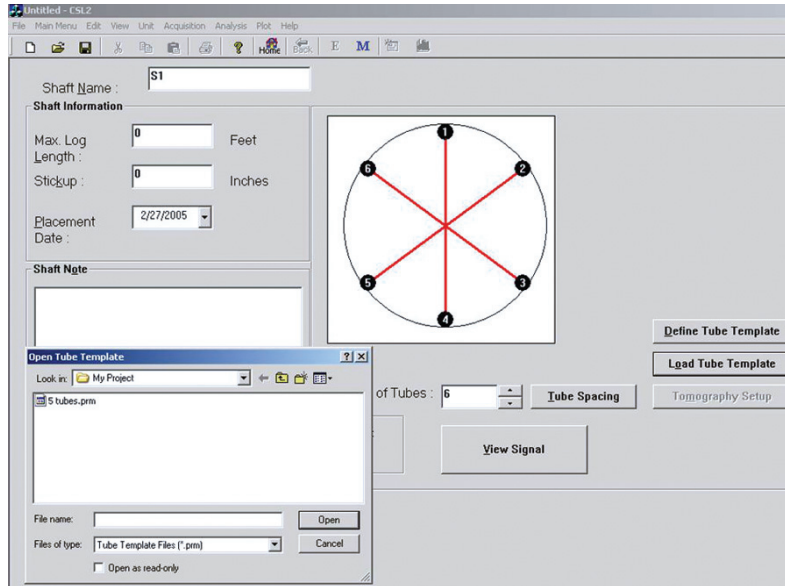

Figure 7: Loading Tube Template
11. The pre-defined tube template can be loaded by clicking on "Load Tube Template". An applet shown in Figure 7 will appear on the screen. After selecting the desired saved tube template, the screen will be updated according to the selected file.